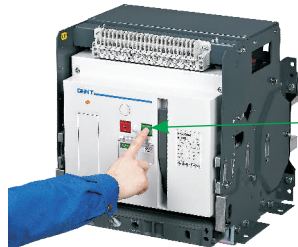

Figure 36 Manual closing operation
a. Closing: When the switch disconnecter is storing energy and in the off state, press the green "I" button and the switch disconnecter closes, and the "opening/closing" indicator switches from "○" to "I", and the "energy storage/release" indicator switches from "energy storage" to "energy release" state, as shown in Figure 36.